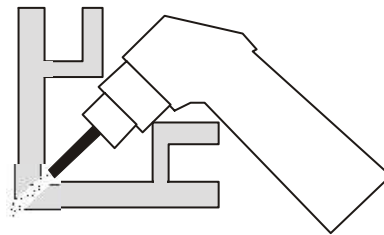

Fig. 8
7. In case of cutting in the corner or around the corner (see Figure 8), use the long electrode and cutting tip (pos. **17** and **20**). The cutting power while using the Long cutting tip is decreased.